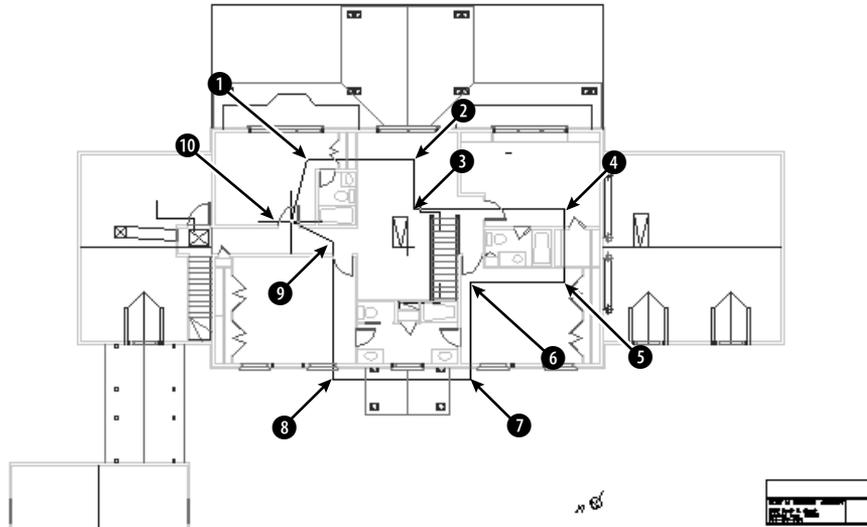

Figure 19-11: Picking a polygonal boundary to clip an xref.
5. Open `ab19-02.dwg` from your AutoCAD Bible folder. This drawing has an attached xref of a house plan and a nested xref of a title block, as shown in Figure 19-11.
Select objects: *Pick anywhere on the xref in Figure 19-11.*
Specify first point: *Pick 1 in Figure 19-11. It might help to turn off OSNAP if it is on.*